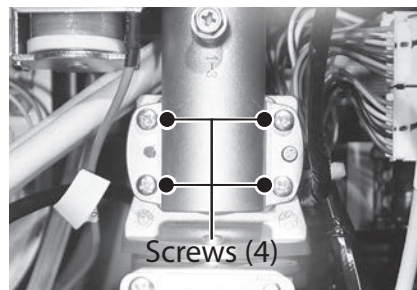

Figure 125 - Remove gas valve screws
- 13 Locate and remove the four screws securing the gas valve to the gas manifold. Place screws aside in a safe place for reinstallation. See Figure 125.
- 26 Locate the four screws previously removed in **Step 13** and secure the gas manifold to the gas valve. See Figure 125.